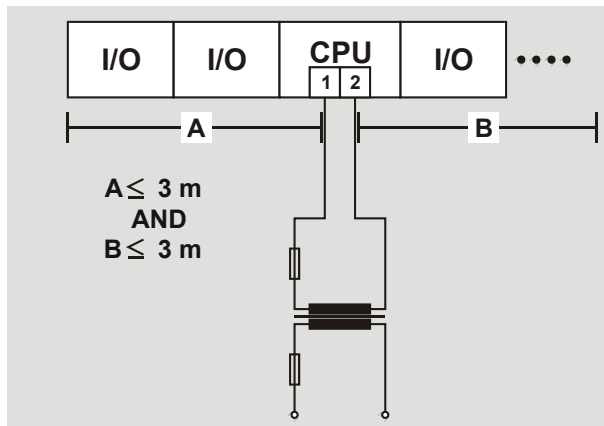

Fig. 30 Wiring power supply from the (first) transformer to the controller module
**NOTE:** Referring to Fig. 30, the following conditions must be fulfilled:  $A \leq 3$  m and  $B \leq 3$  m